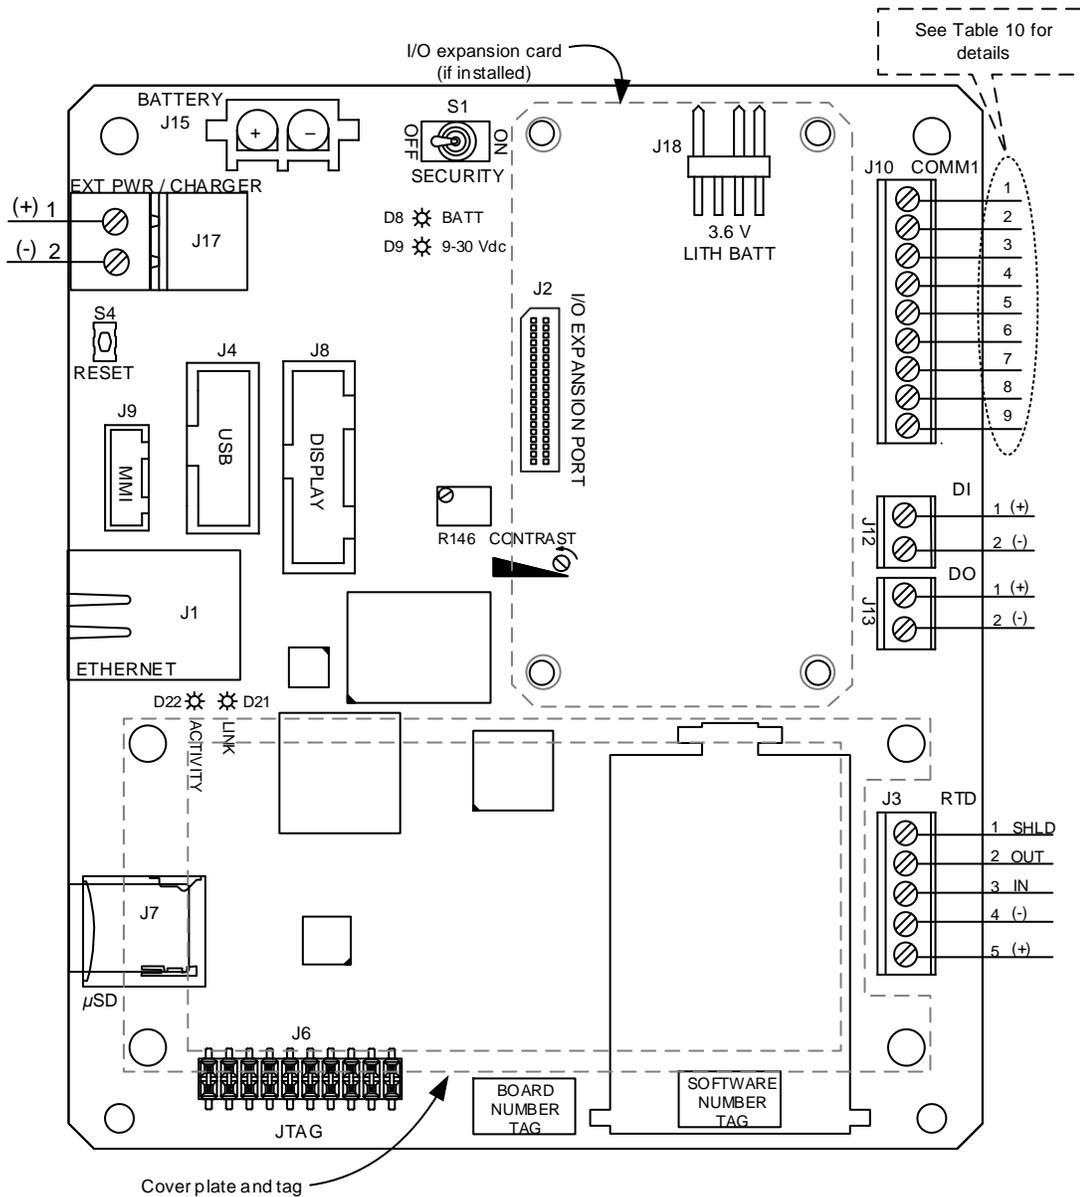
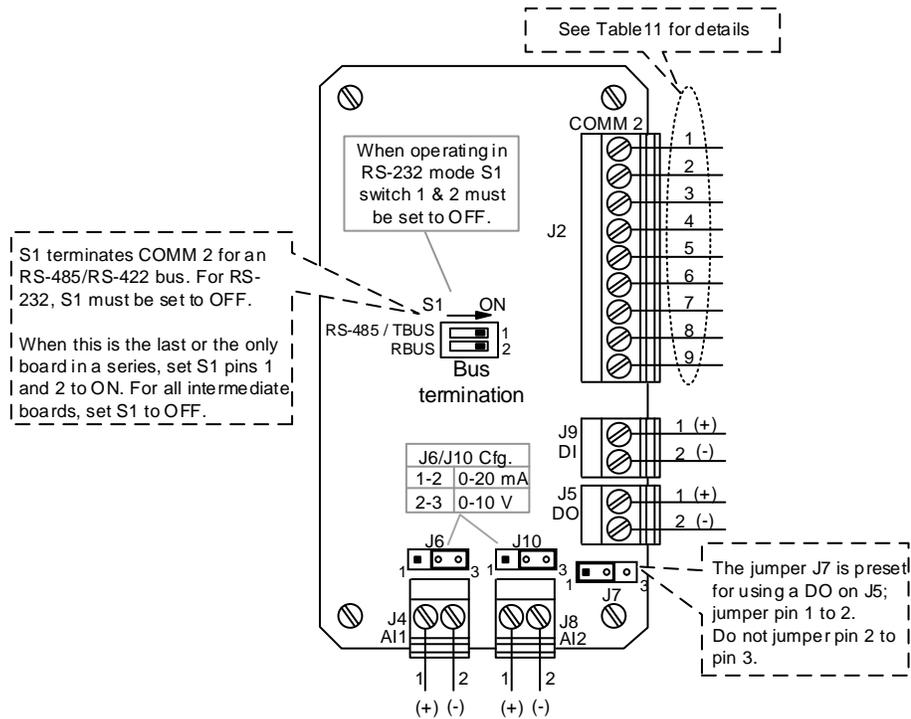

Figure 26: μFLOG5 board point definitions
Figure 27: I/O expansion board
Wire the appropriate communication and digital input and output using the information provided in Figure 26 and the communication points in Table 10.
The I/O expansion board adds one (1) software-selectable communication port (COMM 2), 2 AIs, 1 DI/PI, and 1 DO (Figure 27). The board installs onto the μ FLOG^{G5} expansion port (J2) shown in Figure 26, page 47. Table 11 defines the points for COMM 2.
1. Fit the I/O board connector (J1) onto the I/O expansion port (J2) on the main electronic board (Figure 26, page 47), but do not push down the board to seat.
2. Using a small slotted screwdriver, begin turning each captive screw a few turns each, moving sequentially to each of the four (4) corners of the board, to slowly seat the board into the onboard connector. Continue until the board is fully seated.